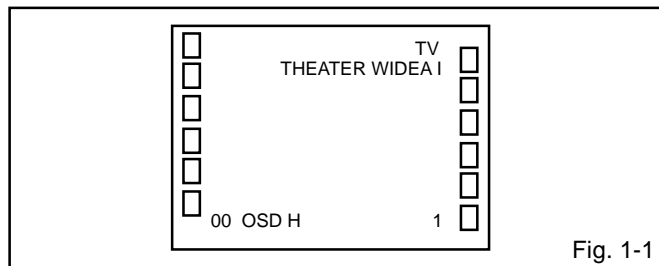

Fig. 1-1
Press the VOL. DOWN button on the set and the Channel button **(9)** on the remote control for more than 2 second to appear the adjustment mode on the screen as shown in **Fig. 1-1**.
4. Activate the adjustment mode display of **Fig. 1-1** and press the channel button **(01)** on the remote control to select "CUT OFF".
4. Activate the adjustment mode display of **Fig. 1-1** and press the channel button **(24)** on the remote control to select "R.BIAS".
6. Adjust the VOL. UP/DOWN button on the remote control to whiten the R.BIAS(C), G.BIAS(C), B.BIAS(C), R/G.DRV(C), B/R.DRV(C), R.BIAS(W), G.BIAS(W), B.BIAS(W), R/G.DRV(W) and B/R.DRV(W)" at each step tone sections equally.
3. Activate the adjustment mode display of Fig. 1-1 and press the channel button **(00)** on the remote control to select "OSD H".
6. Activate the adjustment mode display of Fig. 1-1 and press the channel button **(02)** on the remote control to select "H.POSI".
9. Activate the adjustment mode display of Fig. 1-1 and press the channel button **(04)** on the remote control to select "H. SIZE".
7. Activate the adjustment mode display of Fig. 1-1 and press the channel button **(11)** on the remote control to select "V. CENT".
10. Activate the adjustment mode display of Fig. 1-1 and press the channel button **(05)** on the remote control to select "V. SIZE".
7. Activate the adjustment mode display of **Fig. 1-1** and press the channel button **(06)** on the remote control to select "V. LIN".
4. Activate the adjustment mode display of **Fig. 1-1** and press the channel button **(43)** on the remote control to select "BRI CENT".